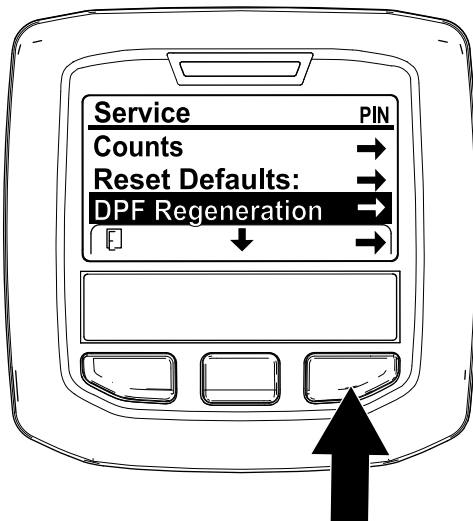

Figure 33
1. Access the Service menu, press the center button to scroll down to the DPF REGENERATION option (Figure 33).
2. Press the right button to select the DPF Regeneration entry (Figure 33).